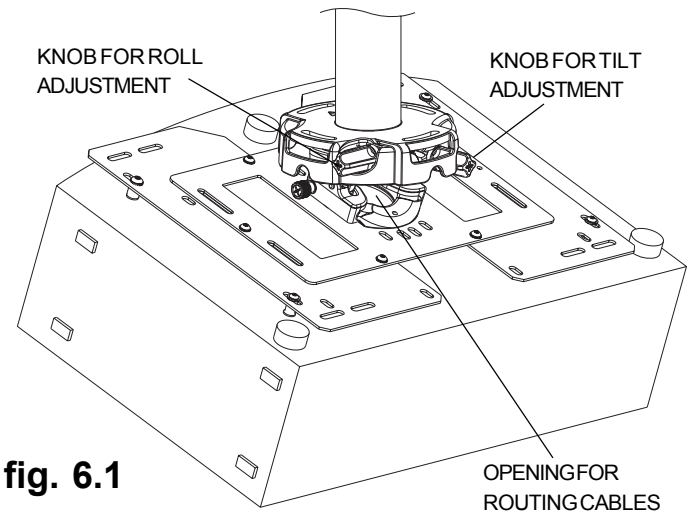

fig. 6.1
- 6** To make an opening to route cables through projector mount assembly, adjust projector mount assembly to full upward tilt position and maximum left or right roll position by turning knobs for adjustments as shown in figure 6.1.